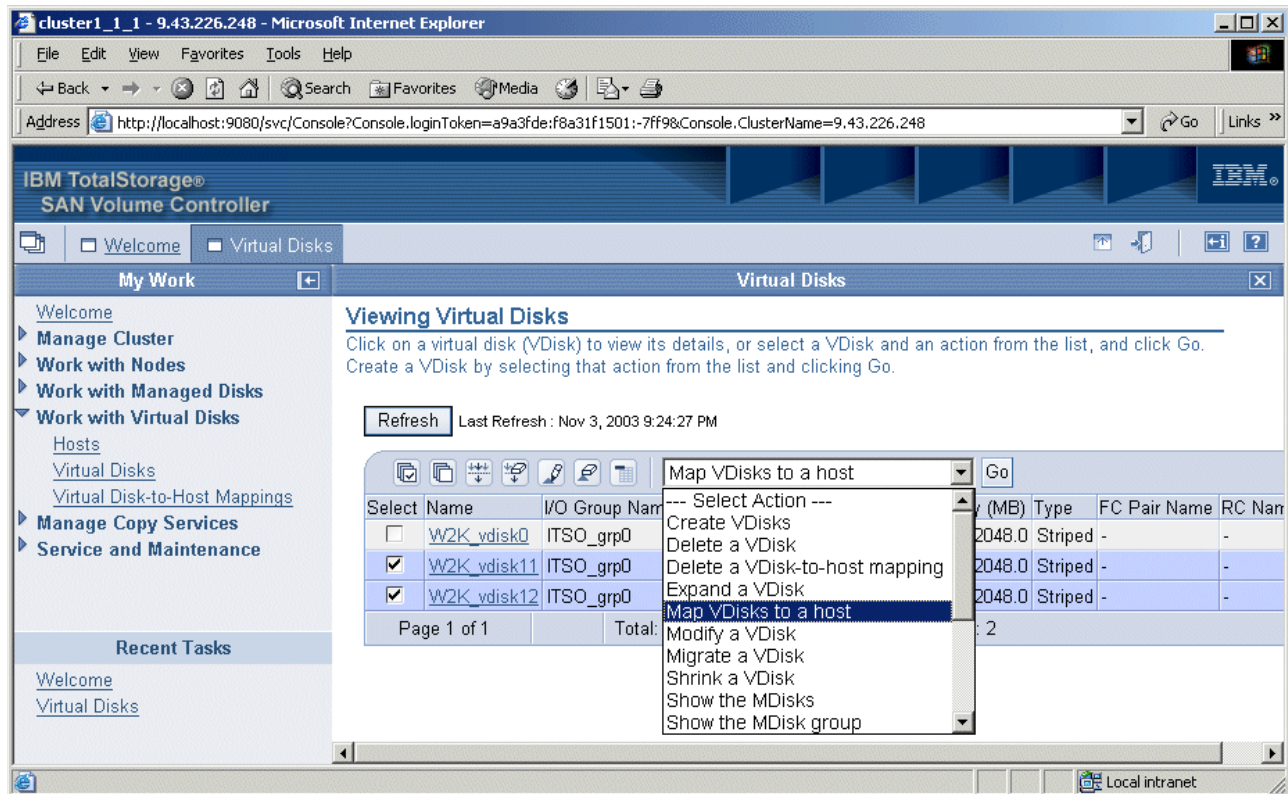

Figure 6-38 Assign a vDisk to a host
3. On the Viewing Virtual Disks panel (Figure 6-38), select the radio button next to the vDisk you want to assign. Select **Map a vDisk to a host** from the list and click **Go**.